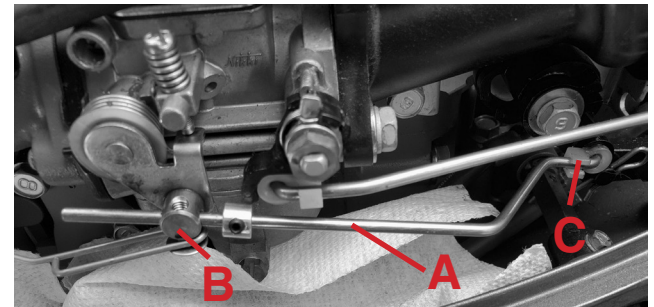

Fig. 3
Step 4: See Fig. 3
- Find iTroll throttle rod (A). Thread straight end of throttle rod through brass carb fitting (B).
- Snap hook end of iTroll throttle rod into white fitting (C).